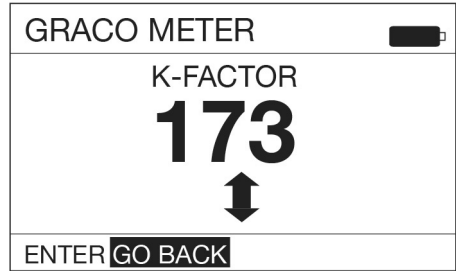

FIG. 20
- The k-factor adjustment screen shown in FIG. 20 displays.